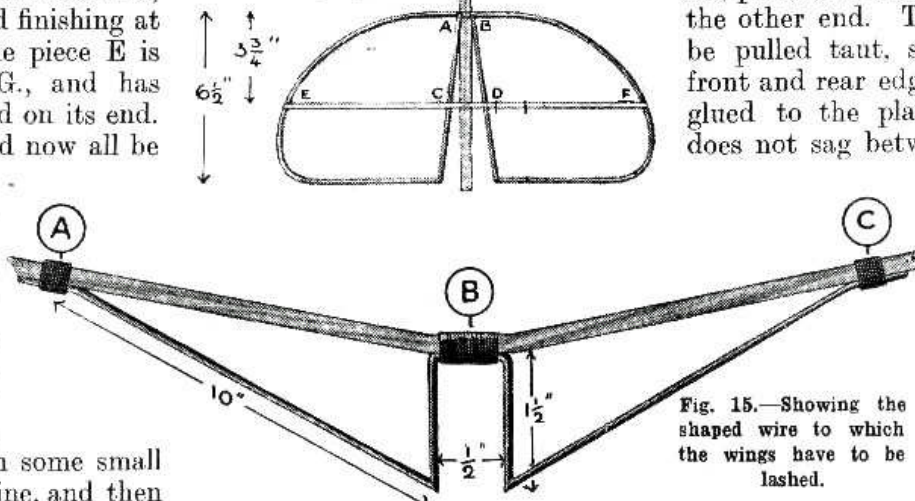

Fig. 15.—Showing the shaped wire to which the wings have to be lashed.
S.W.G. wire. Both lengths are bent to the shape and size shown at Fig. 15. They are lashed with thread to the wing spars at the points A, B and C; B, of course, being the centre of the wing.